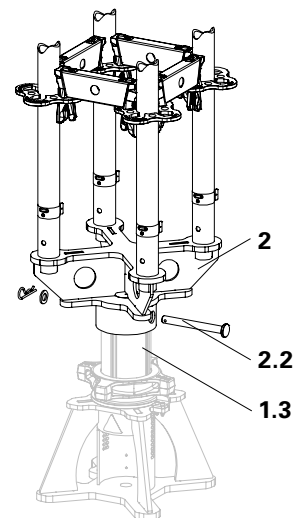

Fig. A2.06a
7. Attach plate and secure with cotter pins. (Fig. A2.06a)